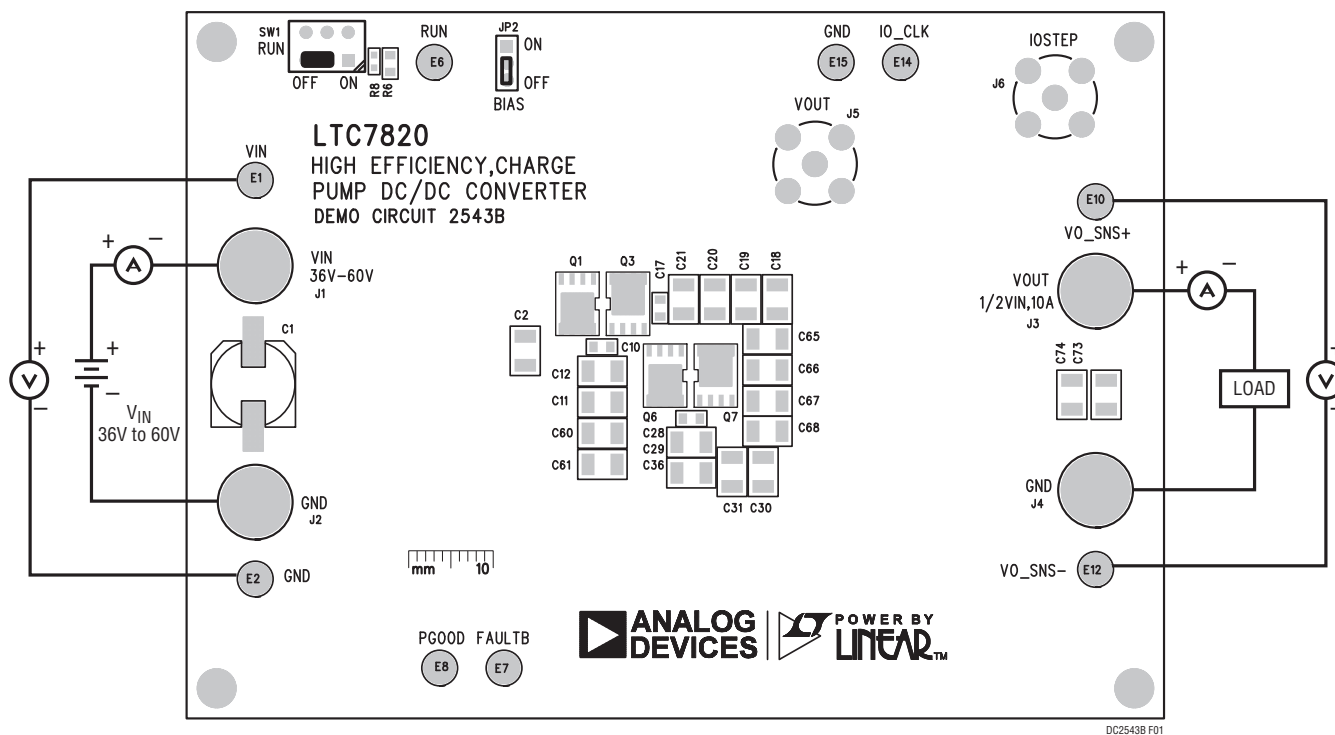

Figure 1. Proper Measurement Equipment Setup
Demonstration circuit 2543B is easy to set up to evaluate the performance of the LTC7820. Refer to Figure 1 for the proper measurement equipment setup and follow the procedure below.
2. Connect the output loads between  $V_{OUT}$  and GND (Initial load: no load). Refer to Figure 1.